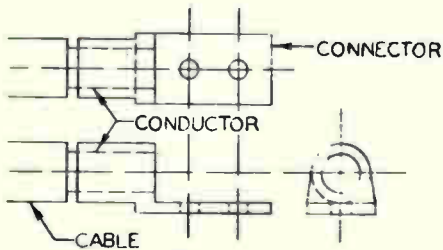

Fig. 6-17
- CL-2 Two hole cable lug. Fig. 6-17